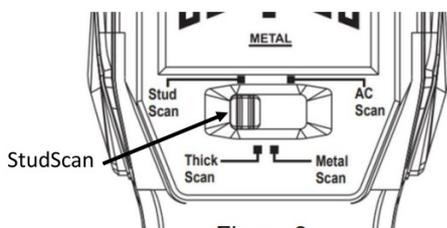
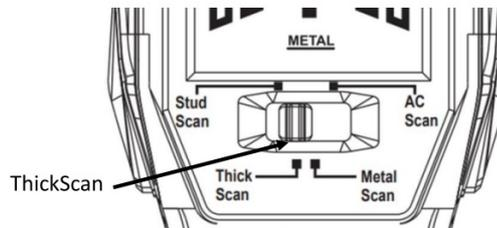

Figure 3
Figure 4
• Selecting the detection mode: move switch to left for StudScan (Figure 3) and right for ThickScan (Figure 4).